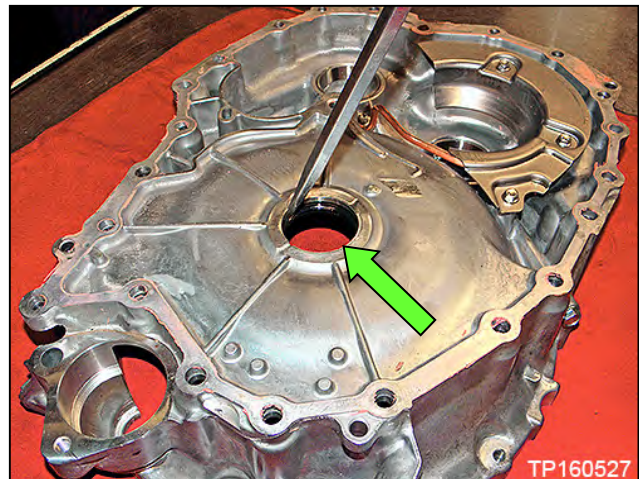

Figure 40
- b. Torque converter seal (Figure 40).